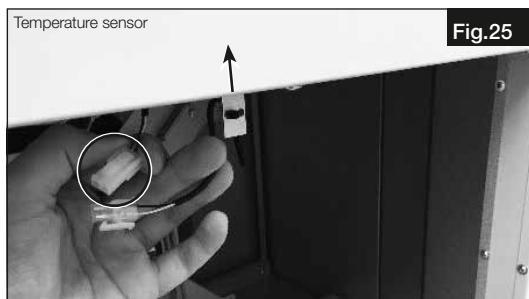

Fig.25
3. Remove the temperature sensor from the supply air side of the AIR1 unit or the external auxiliary heater. Then attach the change-over-unit DX and the AIR1 unit or external auxiliary heater (see Fig.25).